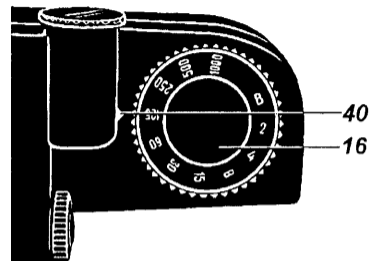

Fig. 10.
**Shutter speed** can be set both with lowered and with cocked shutter by turning the knob 16 to align the chosen speed with the index 40 on the top plate of the camera (fig. 10). Setting the shutter speed in the range from 1/1000 up to 1/60 sec with a lowered shutter requires greater effort than with the shutter cocked.